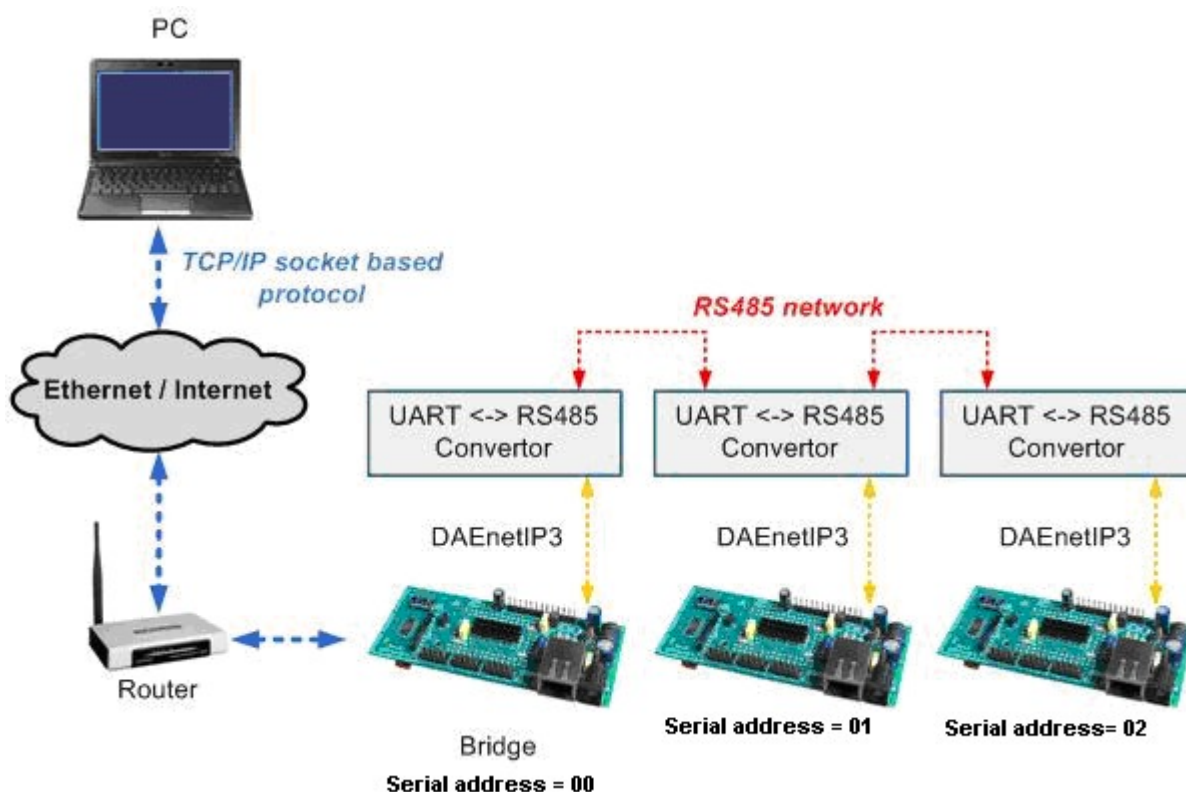

Figure 43. RS485 network with many DAEnetIP3.
The main purpose of the UART is creating RS485 network accessed over single IP (figure 43). Each DAEnetIP3 has serial address from 0 up to 254 (00-FE). The address 255 (FF) is reserved for emergency situations. For RS485 network it must be used UART<->RS485 convertor (for example SN75176B).